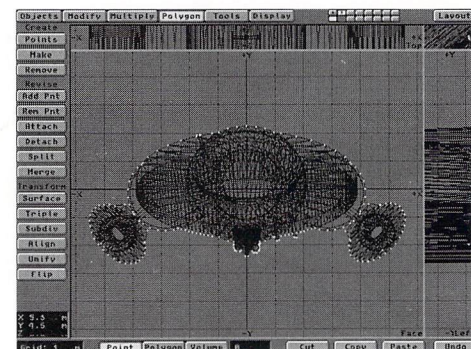

Figure 6: Points comprising the outer edge of the ship
- Cut and paste them in a different layer, which will form the basis of our shadow edge object (Figure 6). If your object is too complex you may want to delete every other point, since your shadow edge object doesn't have to be as detailed as your ship, and depending on camera distance, doesn't have to be precise. For most cases, the camera has to be a fair distance away anyway so that you keep the volumetric effect in frame.